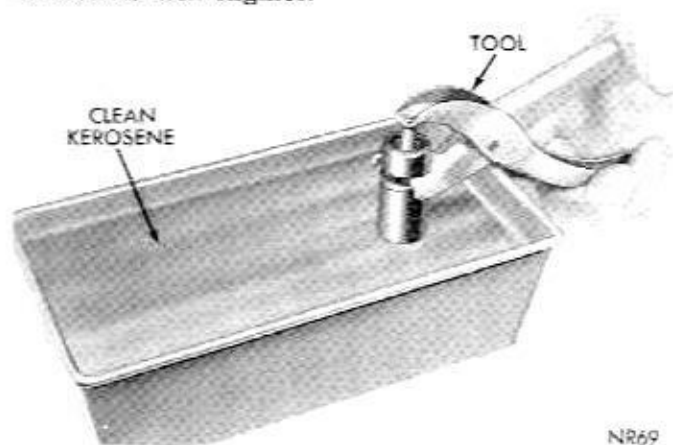

Fig. 17—Testing Tappet Using Tool C-3160
(4) Unseat check valve with a brass rod to permit complete installation of plunger. Replace cap.
(5) Hold tappet in an upright position and insert lower jaw of pliers, Tool C-3160, in the groove of tappet body (Fig. 17).
(6) Engage jaw of pliers with top of tappet plunger. Test leakdown by compressing the pliers. If plunger collapses almost instantly as pressure is applied, disassemble tappet, clean and test again (Fig. 17).
(7) If tappet still does not operate satisfactorily after cleaning, install a new tappet assembly.